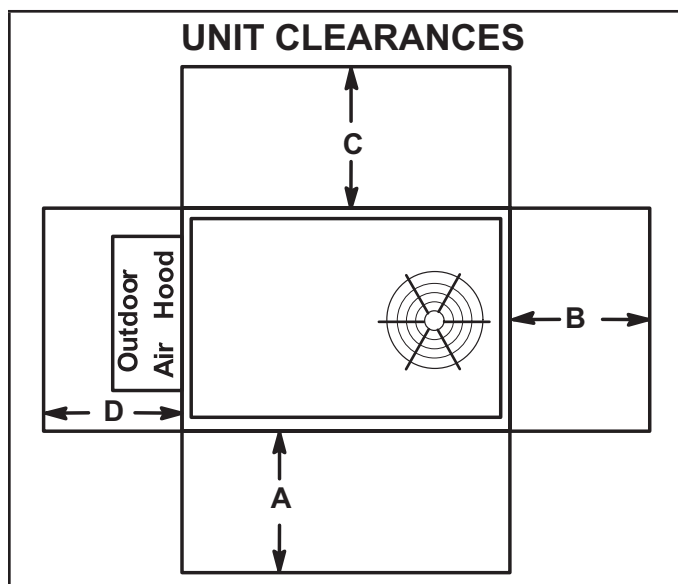

FIGURE 1
See FIGURE 1 for unit clearances.
The LHX unit is ETL/CSA certified as a heat pump with cooling and with or without auxiliary electric heat for outdoor installations only at the clearances to combustible materials as listed on the unit nameplate and in FIGURE 1.
- 2 - Specified installation clearances must be maintained when installing units. Refer to FIGURE 1.